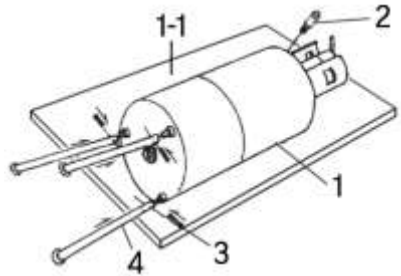

Fig. 1
2. Slide each leg (#4) onto a post and secure with a cotter pin (#3) (Fig. 1).
3. Thread the safety valve (#2) into the hole at the top of the tank (Fig. 1).